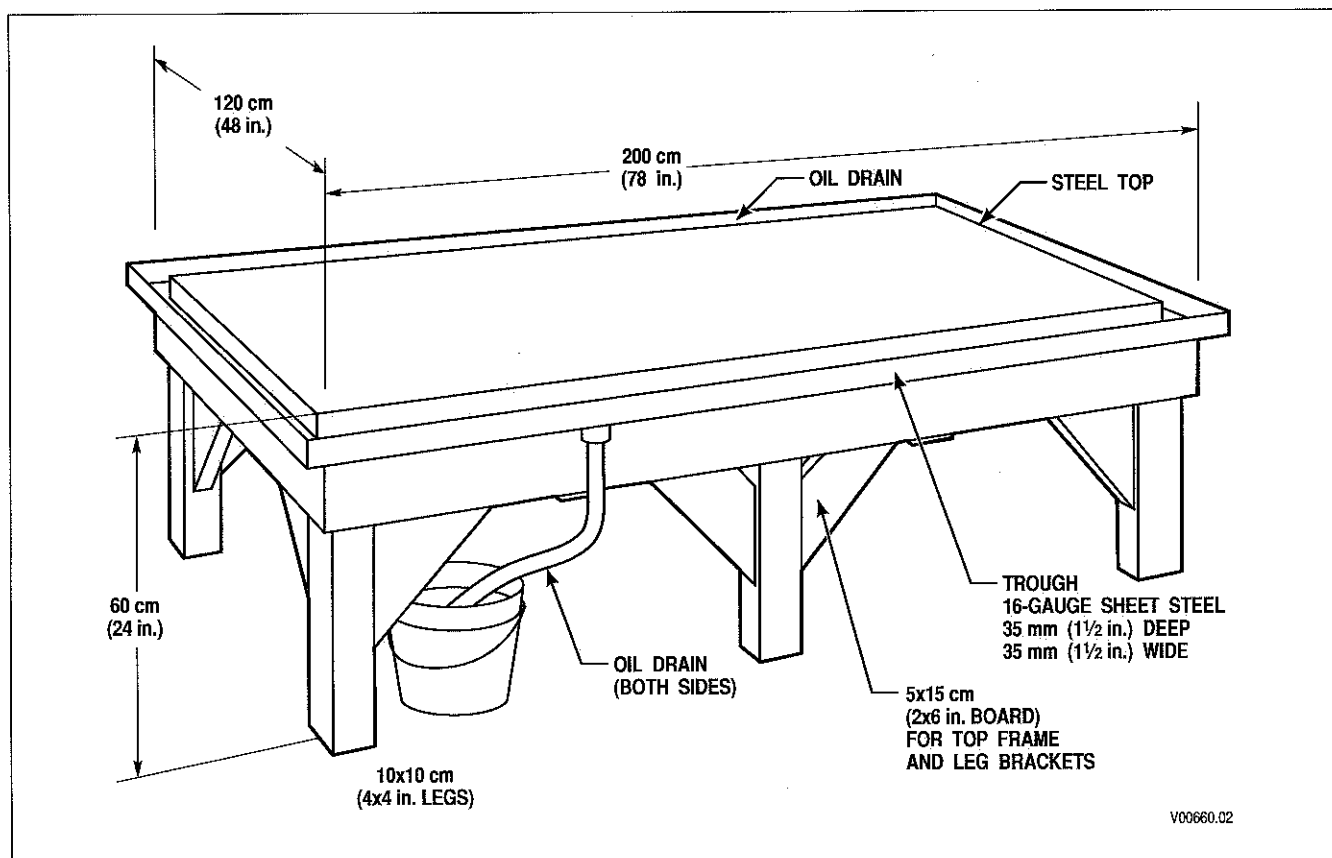

Figure 3-1. Work Table
- Work Table—500 kg (1000 lb) capacity (Figure 3-1)